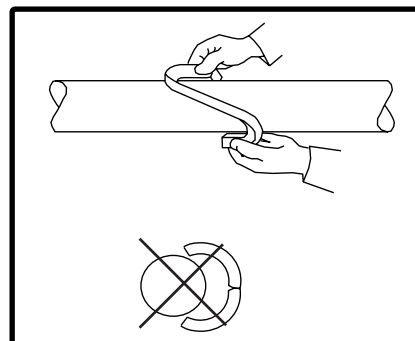

FIGURE 11.2
mandrel as shown. When removing rings from mandrel, slip them off without opening the rings. This is especially important for metallic types. Do not open with a hinge-like action (see Figure 11.2).
11.5 Install rings over the shaft by twisting open as shown in Figure 11.2. This is especially important for metallic rings. NEVER open rings with hinge like action.